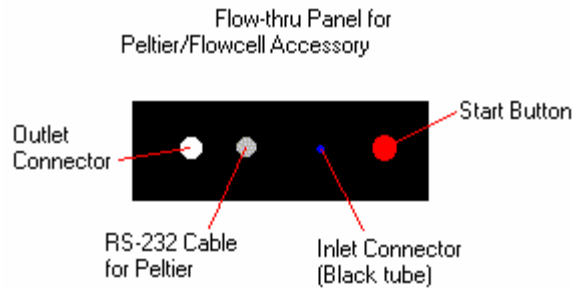

Figure -20 Flow-thru Panel for Peltier/Flowcell Accessory
- Step 11 Connect Peltier/Flowcell Controller to the Outlet Tube Connector (Figure-20).